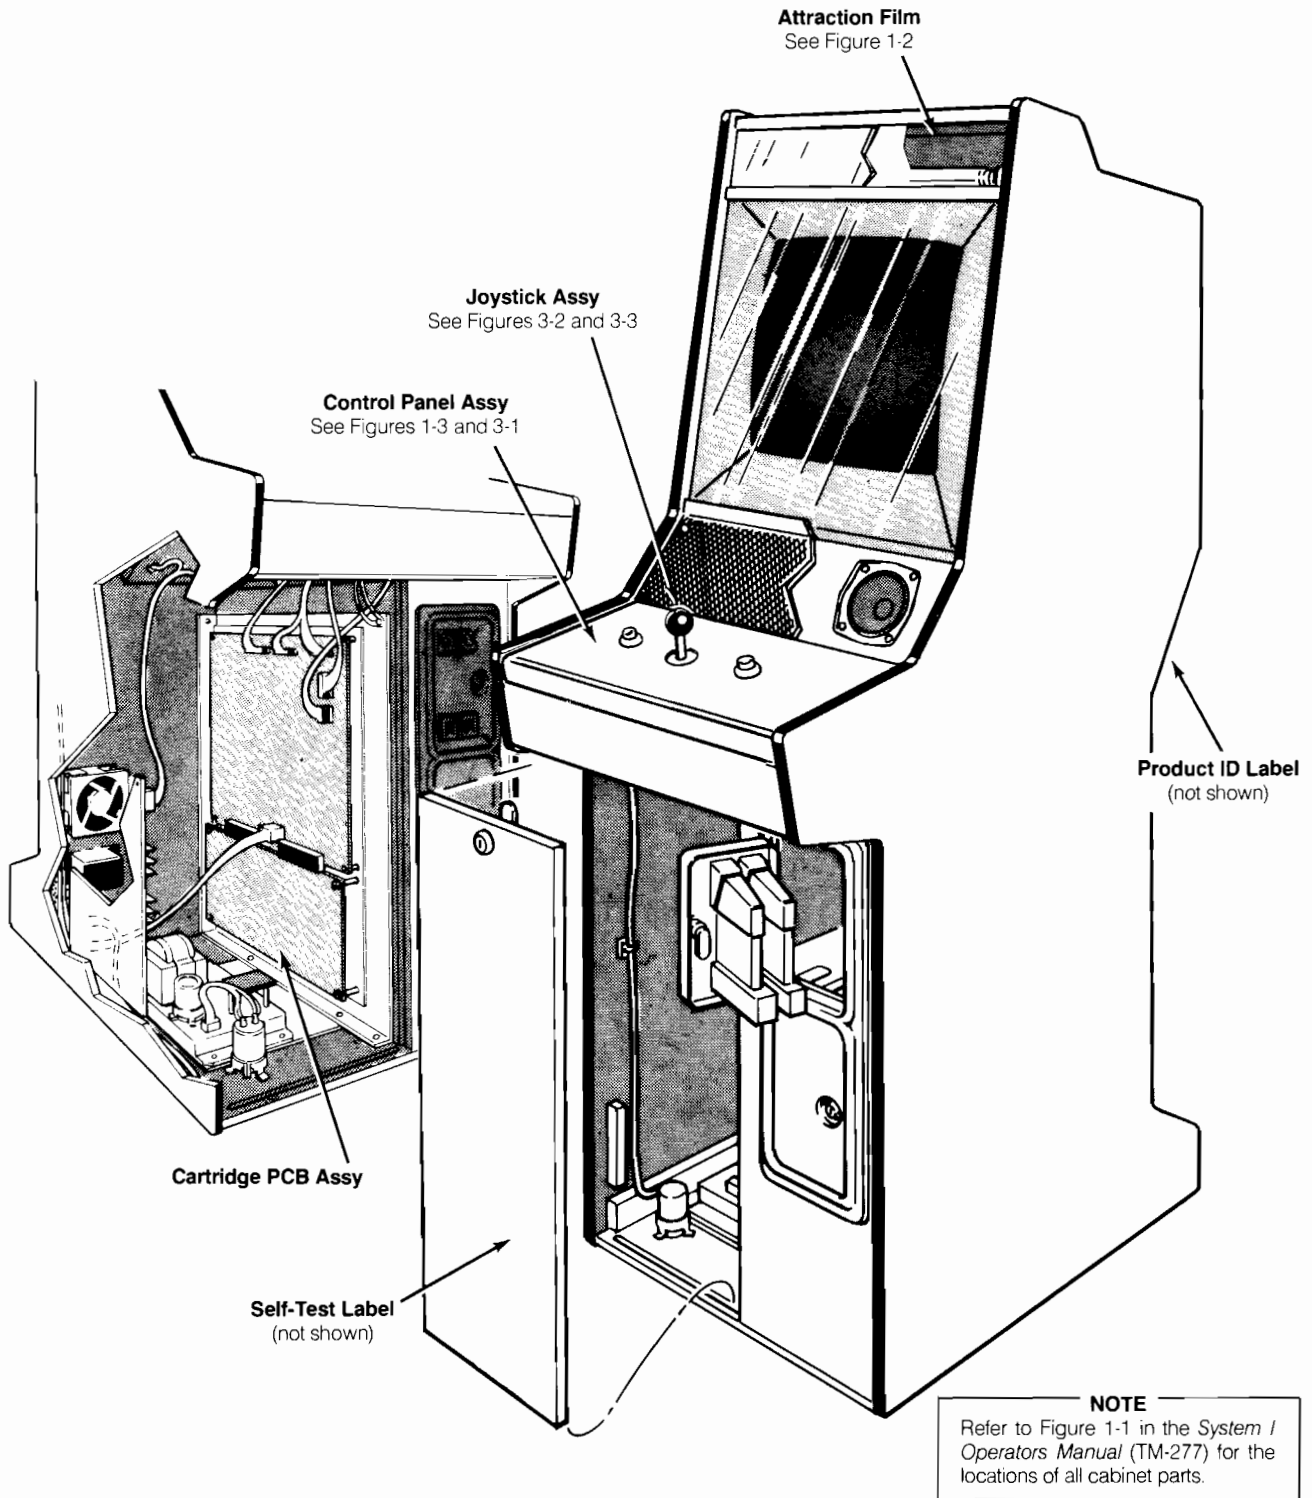

Figure 1-1 Conversion Kit Part Locations
| Figure 1-1 | Conversion Kit Part Locations | 1-2 |
Your TEMPLE OF DOOM* game uses the Atari Games System I™ cabinet, which is designed to accept the necessary hardware to easily convert the System I cabinet into a variety of games. Consequently, this manual contains information that applies to those parts of your existing System I cabinet that are added or replaced to convert the cabinet for the TEMPLE OF DOOM game (see Figure 1-1). Information that applies to those parts of the System I cabinet that are common to all games is contained in a separate *System I Operators Manual* (TM-277), included with your System I cabinet. Where applicable, references are provided in this manual to the *System I Operators Manual*.
This chapter includes the instructions necessary for converting your existing System I game into a TEMPLE OF DOOM game. The conversion instructions include: (1) removing the existing attraction film, control panel, and Cartridge Printed-Circuit Board (PCB); and (2) installing a TEMPLE OF DOOM attraction film, Cartridge PCB, and control panel. Refer to Figure 1-1 for the locations of the parts of the System I cabinet that are replaced.
6. Replace the four thumbscrews on the Cartridge PCB. Refer to Figure 1-1 for the locations of the printed-circuit boards.